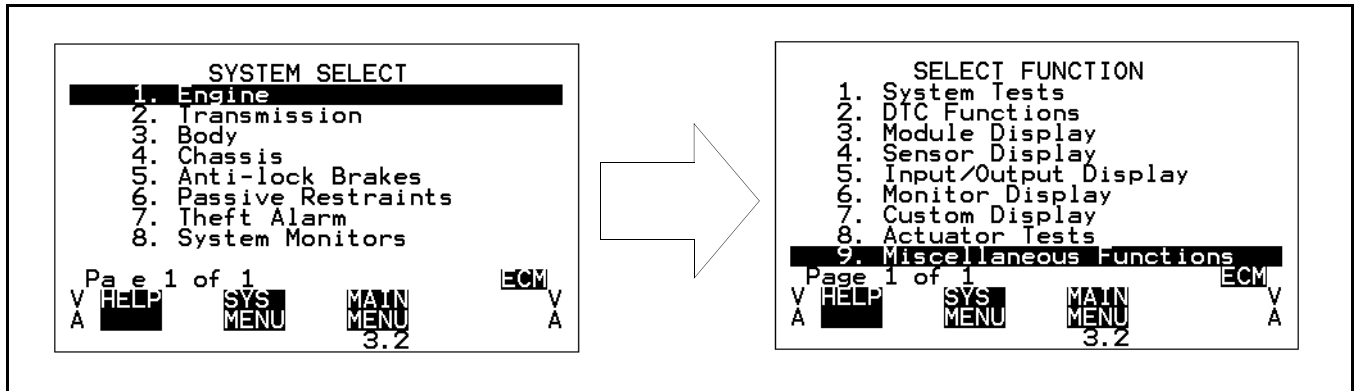

Figure 251 Selecting Engine and Miscellaneous Functions
1. Choose Engine in the System Select screen and Miscellaneous Functions in the Select Function screen (Figure 251).